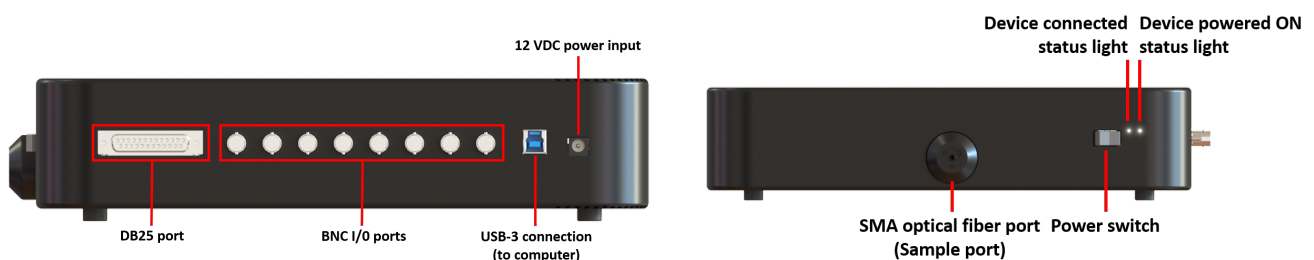
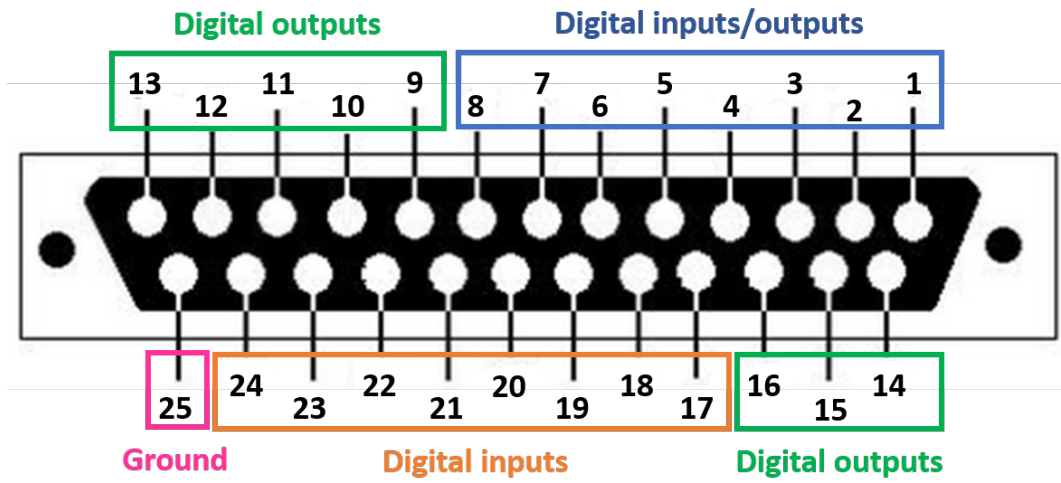

Figure 2.1: BFMC Gen3 overview
Figure 2.2: DB25 port pinout description
- The BFMC system is also equipped with 8 Digital Input/Output (DIO) ports and an DB25 adapter (see pinout description on Fig. 2.2). These ports are useful for synchronization and closed-loop experiments with external devices such as behavior cameras, operant conditioning chambers, video tracking software, and optogenetic light sources (Fig. 2.1).
- Each BFMC Gen3 has a single sample port (Fig. 2.1). This port doesn't have spectral filtering, all wavelengths can pass freely through it. The sample port consists of a microscope lens and a fiber adapter to image fiber bundle onto the cameras. To accommodate larger fiber bundles (up to 2.5 mm of diameter), an SMA receptacle is used on the sample port. Two types of bundle can be connected to the SMA port: A Fan Out bundle where each fiber has an individual connector at its other end, or a High Density fiber that has multiple fiber-optic strands terminated on one side in the same high-density connector pattern as the corresponding High-Density Fiber-optic Cannula Array. Low autofluorescence materials and black epoxy are used to reduce background fluorescence and prevent cross-talk between each fiber.
- The BFMC Gen3 is also equipped with a power switch and 2 status lights turning ON when the device is powered on and connected to Doric Neuroscience Studio software (Fig. 2.1).
- The 12 VDC power input port is used to power the BFMC Gen3 (Fig. 2.1).